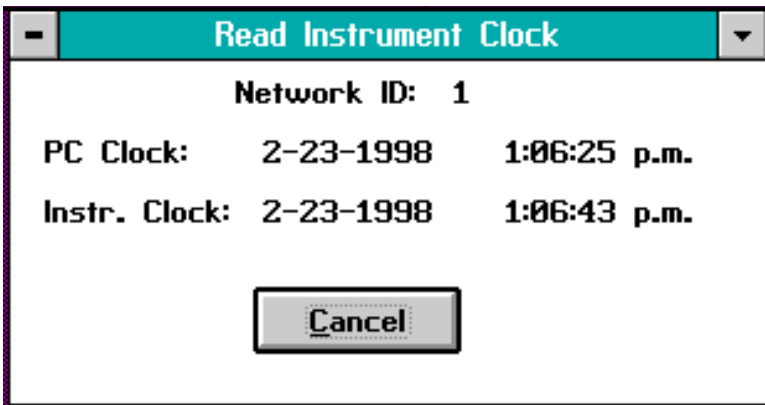

Figure 5-2: Instrument/PC Clock Reading
1. Select the **Read Instrument Clock** command (**ALT+S** and **ALT+R**). A window similar to that shown in Figure 5-2 below appears: